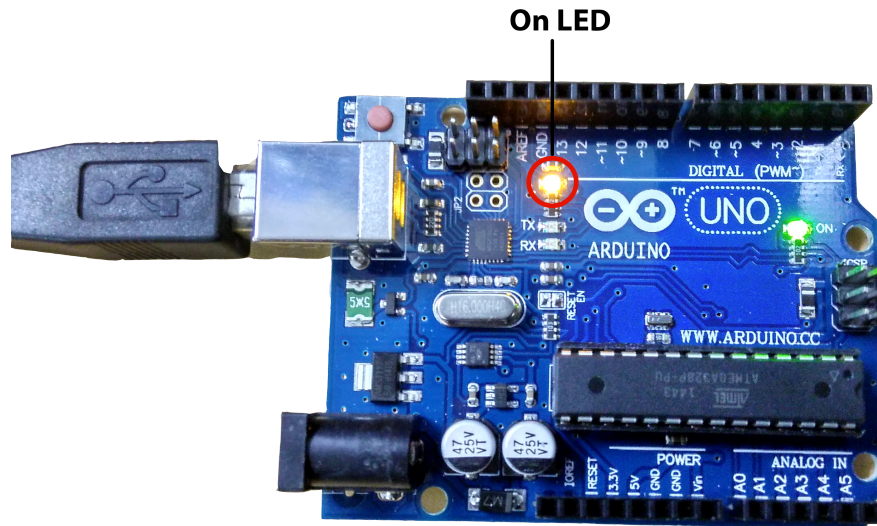

Figure 4.5: LED experiments directly on Arduino Uno board, without the shield
**Note:** All the above four experiments have been done with the shield affixed to the Arduino Uno board. One may run these experiments without the shield as well. But in this case, pin number 13 has to be used in all experiments, as pin 13 lights up the LED that is on the Arduino Uno board. For example, in Arduino Code 4.1, one has to replace both occurrences of number 9 with 13. In this case, one will get the LED of Arduino Uno board light up, as shown in Fig. 4.5.